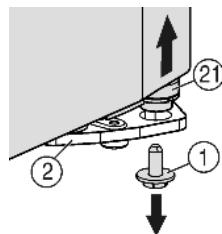
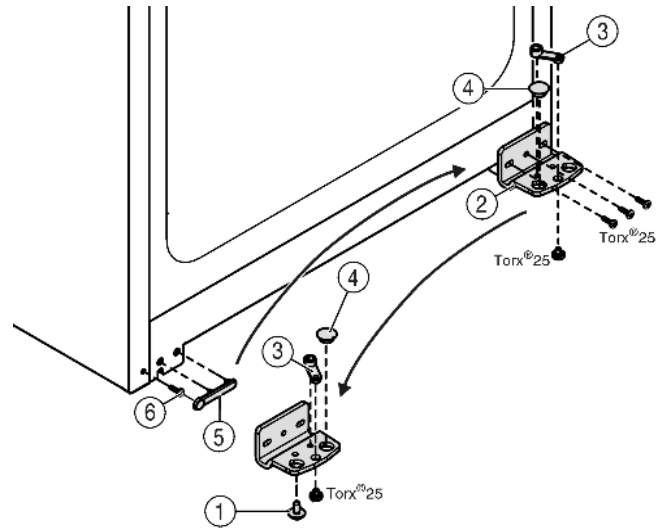

Fig. 6
Fig. 7
- ▶ Unscrew the securing screw on the bottom right Fig. 6 (1) turn hinge.
- ▷ The bearing pin Fig. 6 (21) should come out of the turn hinge Fig. 7 (2).
- ▶ If the bearing bolt Fig. 6 (21) doesn't undo press it out from underneath.
- ▶ Unscrew the turn hinge Fig. 7 (2).
- ▶ Unscrew the bearing element, Fig. 7 (3) transfer it to the opposite location hole of the turn hinge and screw it firmly into place.
- ▶ Take the stopper Fig. 7 (4) out of the turn hinge and transfer it to the receiving hole on the opposite side of the turn hinge.
- ▶ Carefully lift off the cover Fig. 7 (5) on the handle side.
- ▶ Undo the screw Fig. 7 (6) and transfer it to the opposite side.
- ▶ Put the cover Fig. 7 (5) back on.
- ▶ Screw the turn hinge Fig. 7 (2) firmly into place on the new hinge side (**with 4 Nm**), possibly using a power screwdriver.
- ▶ Insert the securing screw Fig. 6 (1) at the bottom into the bearing pin and tighten it (with 4 Nm).